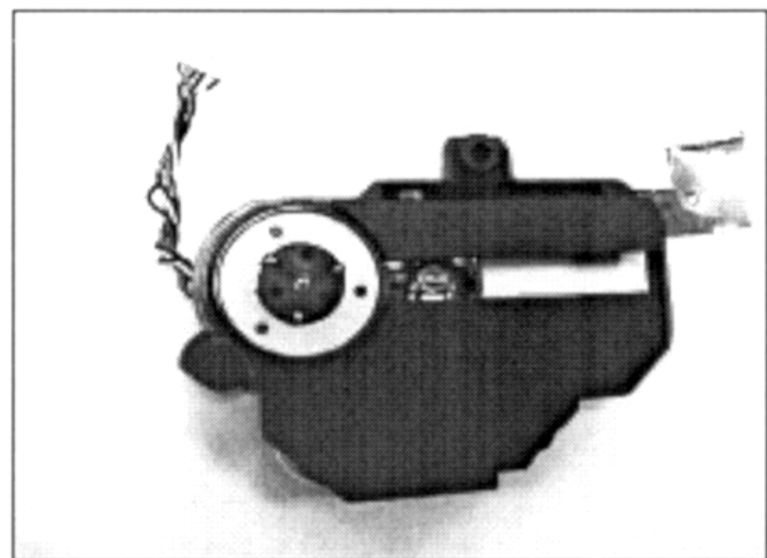

Fig. 4
- Remove the CD MECHANISM. (Fig. 4)
- Remove the CD MECHANISM (Fig. 4)